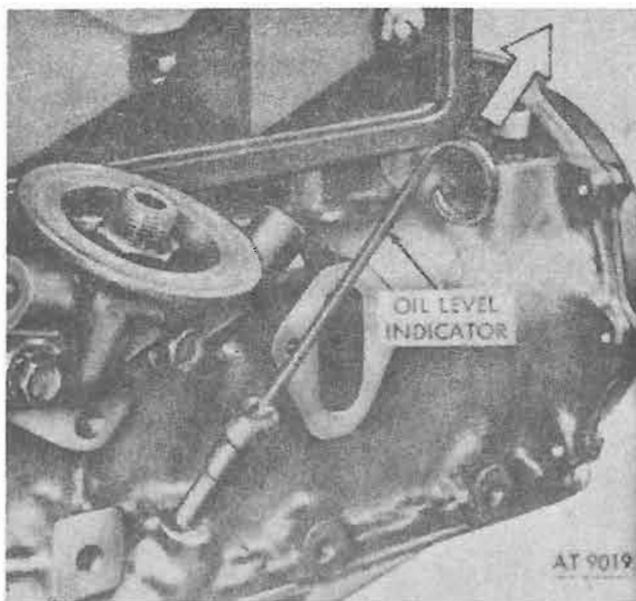

Figure 4-86. Oil level indicator.
a. *Oil Level Indicator.* Pull out oil level indicator from oil level indicator tube in cylinder block (fig. 4-86).